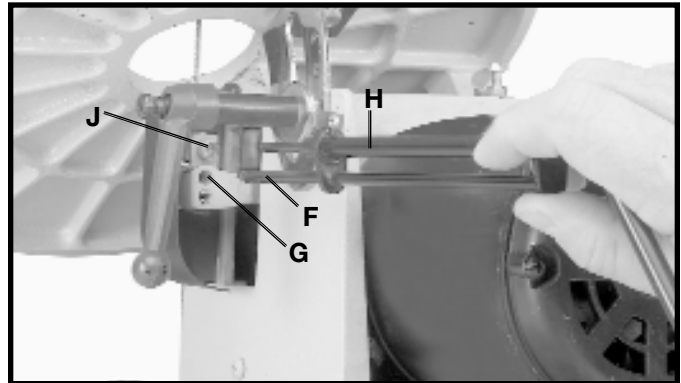
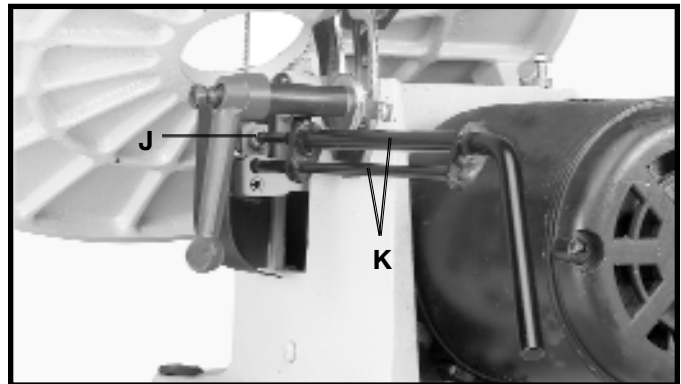

Fig. 24
Fig. 25
4. Insert long end (F) Fig. 24, of quickset blade wrench into hole (G) in lower blade holder. This will align wrench (H) with blade holder screw (J).
5. Fig. 25 illustrates the quickset blade changing wrench (K) engaged with the lower blade holder assembly. Turn wrench counterclockwise to loosen screw (J) Figs. 24 and 25, and remove blade from lower chuck.